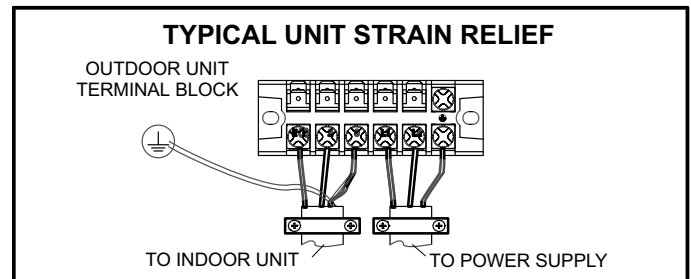

FIGURE 31
7. Use the strain relief to secure the cabling (figure 31).